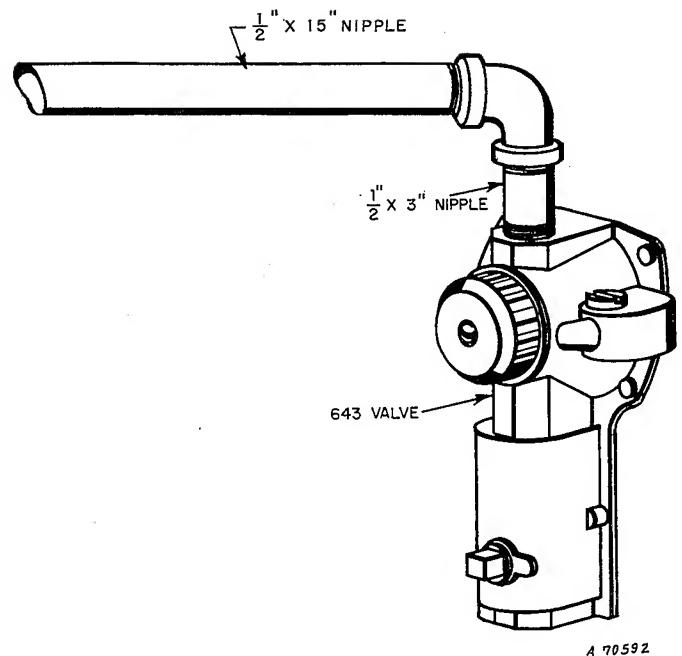
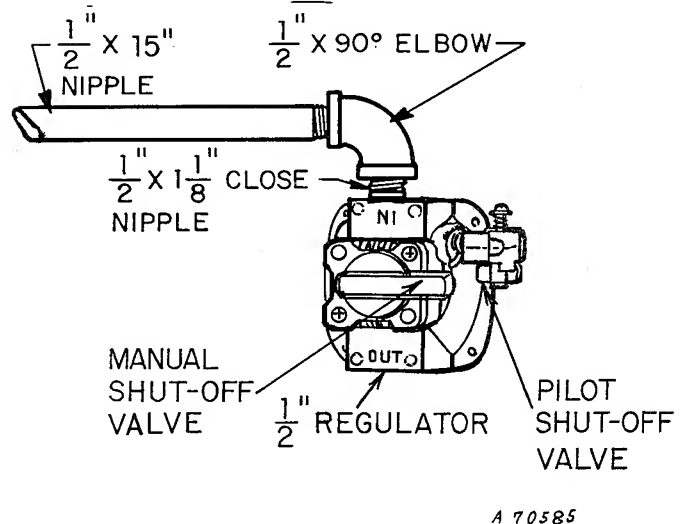

Figure 6 - Unit Piping for 453 Chiller Equipped with A643 Combination Regulator-Gas Valve
Figure 7 - Unit Piping for 453 Chiller Equipped with Separate Regulator and the A639 Gas Valve
2. The gas supply pipe enters through a knockout located in the rear of the unit near the right side. Refer to Figure 2 on page 2 for gas inlet hole location. The unit piping for 48-453 units equipped with the A643 combination regulator-gas valve is shown in Figure 6. The unit piping for 48-453 units equipped with the A639 gas valve and 1/2" regulator is shown in Figure 7.
(a) Materials required for unit piping shown in Figure 6:
(b) Materials required for unit piping shown in Figure 7:
Unit equipped with separate regulator and A639 gas valve - Refer to Figure 4B and Figure 7. Turn the pilot shut-off valve to the full open position. Remove the pilot sealing cap screw to gain access to the pilot gas adjusting screw. Adjust the pilot gas adjusting screw until the flame has the desired appearance as described in Step 2. Replace cap screw.